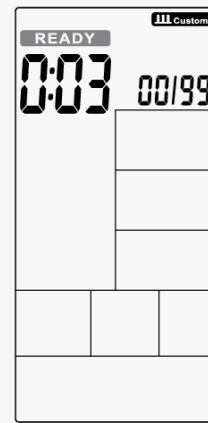

Figure 35
4. Cycle time counts down from 3 to 0 then console start, meanwhile buzzer beeps once per second and READY flashes once per second, counting displays '00/XX'(Figure 35).